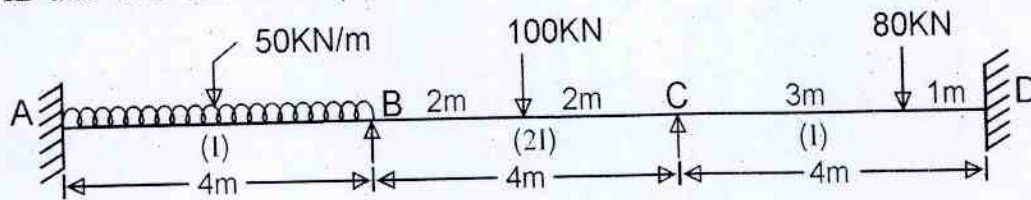

Fig.8
Q.4 Analyze the continuous beam as shown in fig.8 by using Kani's method. Also draw BMD and SFD of the beam. [16]